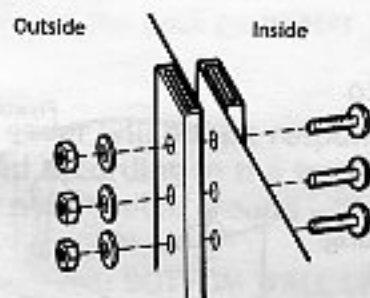

Figure 3.7
- If the pool walls do not meet or are overlapping too far, gently tap each of the footplates from the outside or inside. You will slightly change the circumference of the wall enabling it to fit perfectly. When joining the pool wall, make sure the folded end of the wall is facing the inside of the pool, and the other folded end is outside the pool (figures 3.7 and 3.8).
- Bolt heads must be inside and nuts and washers outside (figures 3.7).
- File off any burrs and cover all bolt heads with a heavy fabric tape before you put in the vinyl liner. (figure 3.7 inside)